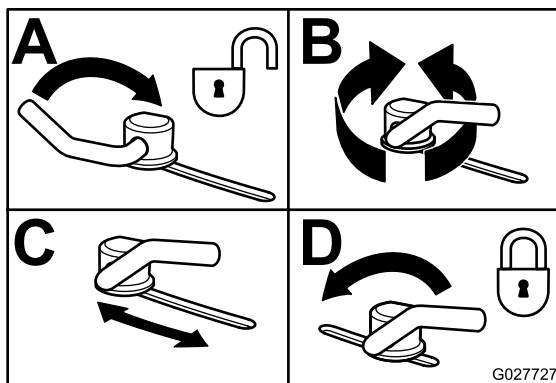

Figure 28
3. To adjust the cam locks, swing the lever up to loosen the cam lock (Figure 28).
5. Swing the lever back over to tighten the baffle and cam locks (Figure 28).